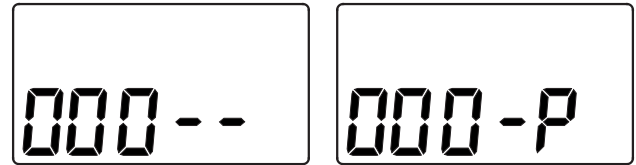
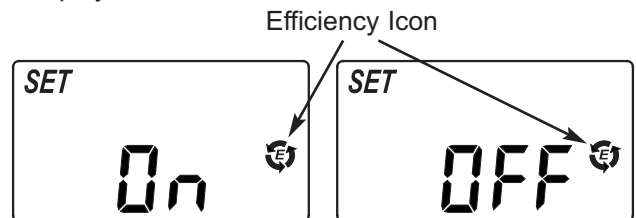

FIG. 33
FIG. 34
1. Press and hold the SELECT button until one of the screens in Figure 33 is displayed. Once in this display, press the SELECT button once and one of the two displays in Figure 34 is shown.